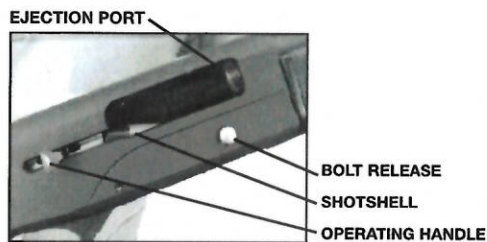

Figure 6
With the safety button fully to the "ON" (SAFE) position, and the muzzle pointed in a safe direction, press the bolt release until the action releases (Figure 6).
1. Depress the bolt lock button, pull back the operating handle until it locks in the open position (See Figure 6).
2. If you wish to load the firearm with the maximum number of shells or fire single shots load the first shell through the ejection port located on the right side of the receiver (See Figure 6). The shell can be inserted directly into the chamber or placed on top of the elevator.
During firing, the operating handle (See Figure 6) travels rearward with considerable force and speed. Do not place hands or other objects in its path.